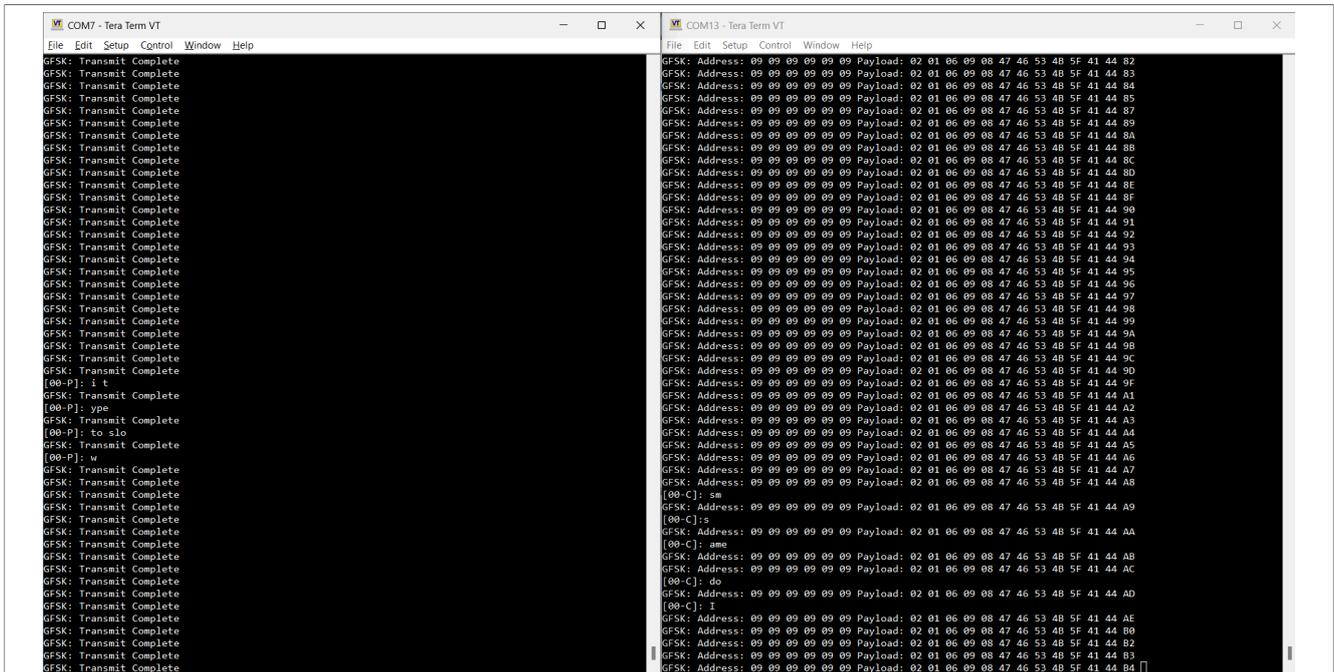

Figure 37. Mixed Wireless UART (Bluetooth LE) and Generic FSK activity
3. Start typing in either of the terminals and you can observe the result as shown in Figure 37. The Bluetooth LE activity is prioritized, characters are displayed in the peer’s terminal and Generic FSK continues in the available slots, not used by the Bluetooth LE link.